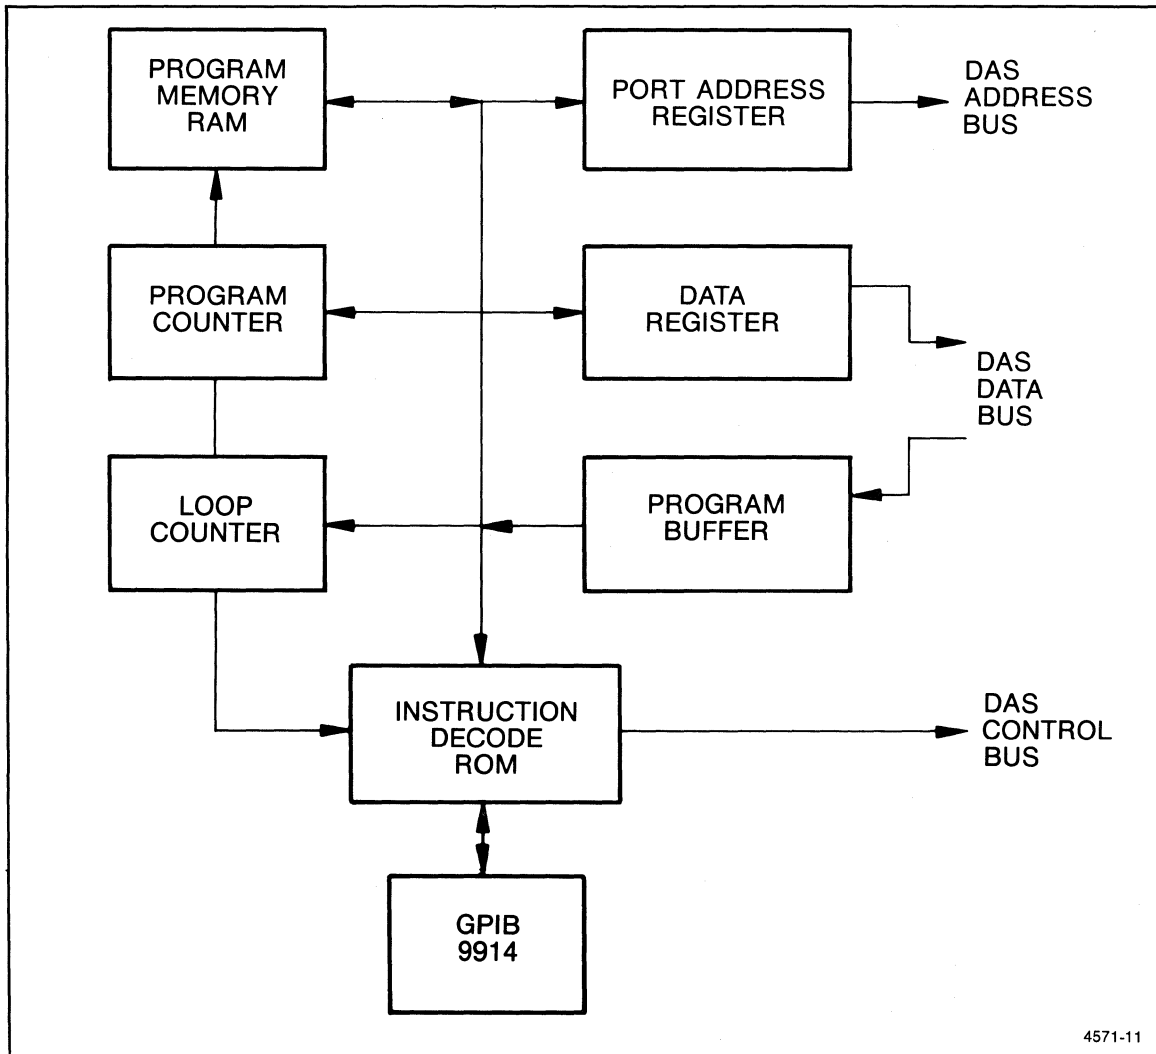

Figure 7-1. Control line timing diagram.
ACTION: Loop on the test and check control lines I0 and I1 and Carry Out (CO) of the loop counter pins 2, 11, and 14 of U675 for the timing diagram as shown in Figure 7-1.
If the signals in Figure 7-1 are present, check to see that the CO output is being transmitted through the test condition multiplexer U445. If not, replace U445.